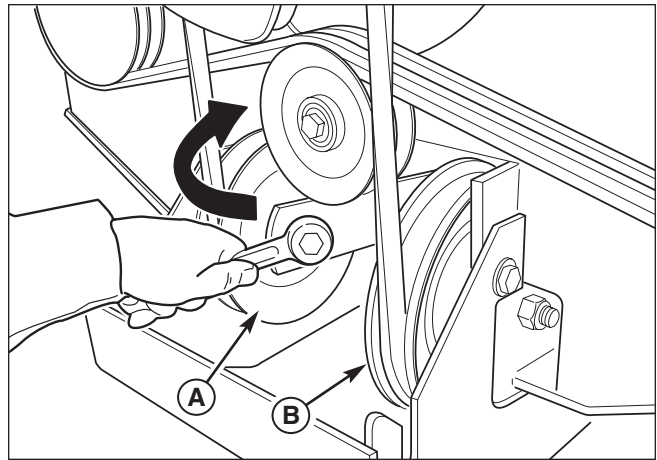

Figure 50. PTO Drive Belt Removal
4. Using a 3/4" box end wrench on the nut of the spring-loaded idler pulley (A, Figure 50), rotate the wrench **CLOCKWISE** to release the tension on the PTO drive belt.
5. Remove the belt from the stationary idler pulley (B, Figure 50).
4. Using a 3/4" box end wrench on the nut of the idler pulley (A, Figure 50), rotate the wrench **CLOCKWISE** and install the belt on the stationary idler pulley.